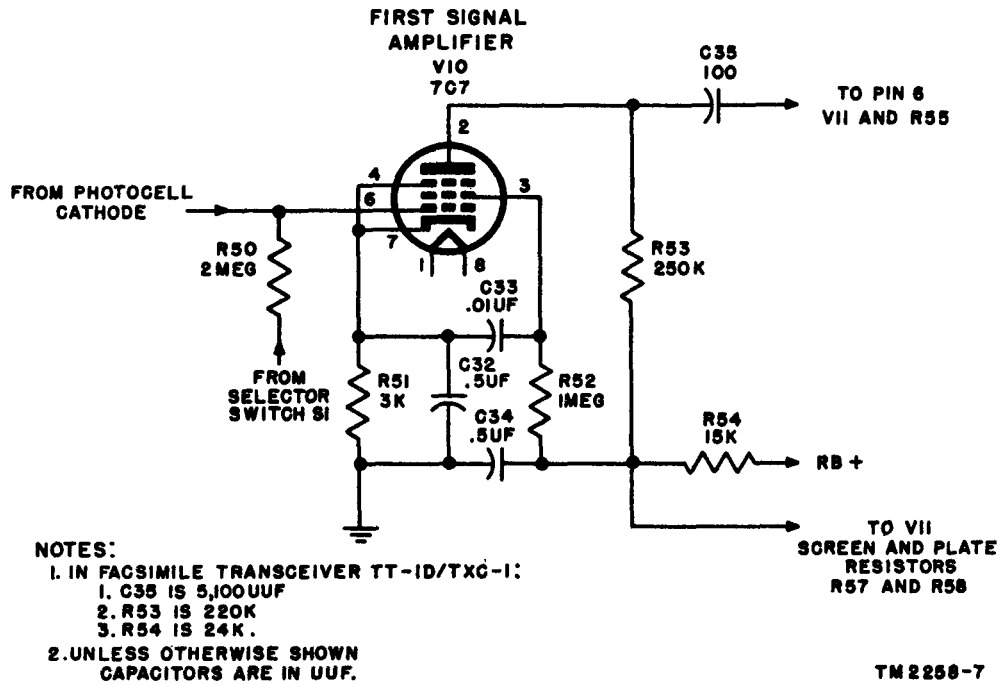

Figure 51. First signal amplifier, Facsimile Transceivers TT-1/TXC-1 through TT-1D/TXC-1, schematic diagram.
a. *First Signal Amplifier (V10)* (figs. 51 and 52). This stage is a high-gain pentode voltage amplifier, tube 7C7 (tube 5879 in Facsimile Transceiver TT-1E/TXC-1 and TT-1F/TXC-1), biased for Class A operation and used for both transmitting and receiving.
- (1) *Transmitting.* With the selector switch at TRANSMIT or SET RANGE, the grid of V10 is fed by the photocell bridge
The talk-back circuit, only on Facsimile Transceivers TT-1A/TXC-1 through TT-1F/TXC-1, is controlled by the STANDBY-MON-TALK switch S5) on the front panel. The circuit is operative only when the selector switch (S1) is in the STANDBY position. When the STANDBY-MON-TALK switch is in the TALK position, the loudspeaker plugged into SPEAKER JACK J7 becomes a magnetic microphone and transforms speech sound waves into electrical currents, which are transferred to the line through the speaker transformer, amplifier stages V10, V11, and V12, and output transformer T2 (figs. 51, 53, and 54). For reception of voice signals with the switch in either the STANDBY or MON position, the signal from the line is fed through input transformer T7, the GAIN control, amplifier stages V10, V11, and V12, and through the speaker transformer to the speaker. The STANDBY-MON-TALK switch makes the following circuit connections: